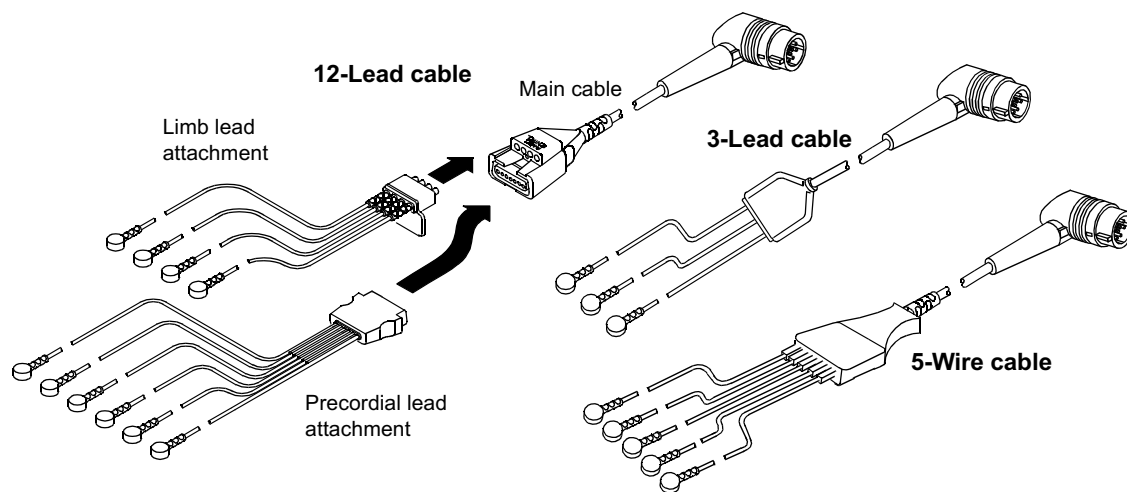

Figure 3-2 12-lead, 3-lead, and 5-wire and ECG Cables
There are three ECG cables available for ECG monitoring as shown in Figure 3-2: the 3-lead and 12-lead cables and the 5-wire cable.
- 1 Insert the precordial lead attachment into the main cable as shown in Figure 3-2.